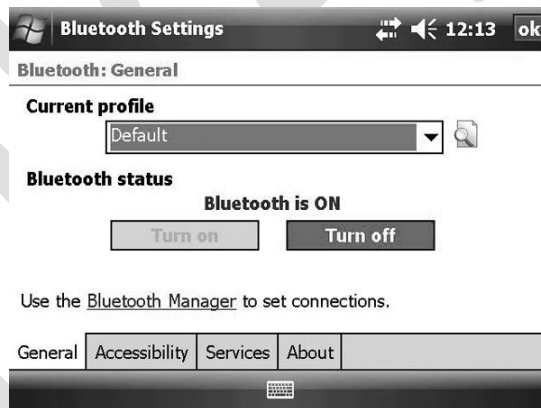

Figure 14-3. Press “Turn on.”
3. From the GENERAL TAB, press “Turn on” (under “Bluetooth status”) and then the “Bluetooth Manager” hyperlink. See Figure 14-3.